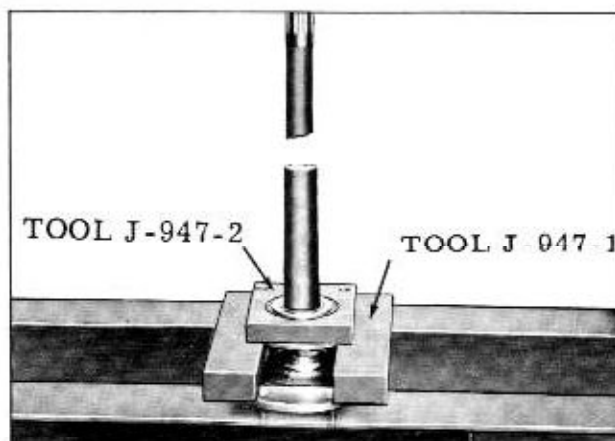

Fig. 5-25 Removing Axle Shaft Bearing
2. Engaging outer race of bearing with Tool J-947-2, used in conjunction with J-947-1, press off bearing in arbor press, (Fig. 5-25). Remove bearing only when a new bearing is to be installed. (Tool J-947-2 is used during removal to prevent breakage of the bearing outer race which could result in personal injury.)